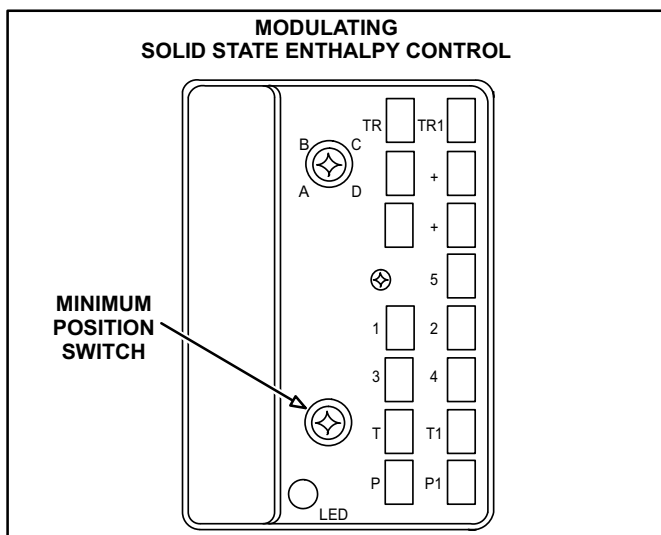

FIGURE 40
- 4 -Install jumper across enthalpy control terminals T and T1. See figure 40 for location.
- 7 -Remove T and T1 jumper then restore power to the unit. Outdoor damper should drive to minimum position. Adjust minimum damper position pot located on control. See figure 40.